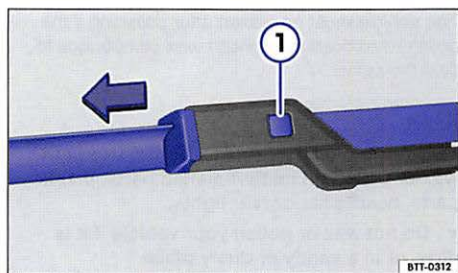

Fig. 135 Changing the windshield wiper blades.
- Press and hold the release button $\Rightarrow$ fig. 135 ① and pull the wiper blade off in the direction of the arrow.